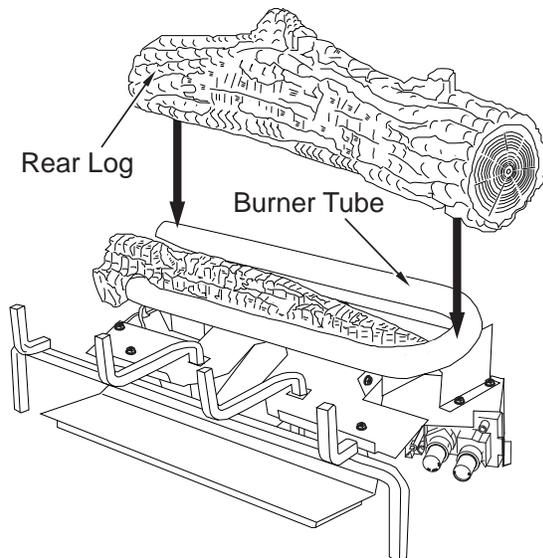

Figure 34 - Installing Rear Log
2. Place the rear log on the base assembly as shown in **Figure 34**. The rear log has grooves in the bottom which will allow the log to sit on the burner and behind the bottom ember log